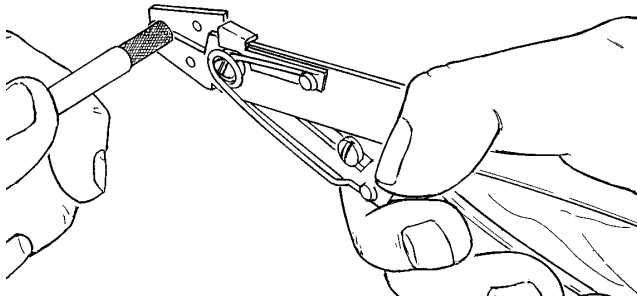

Figure 17
4. Remove dielectric at the mark with a simple wire stripping plier. See Figure 17.